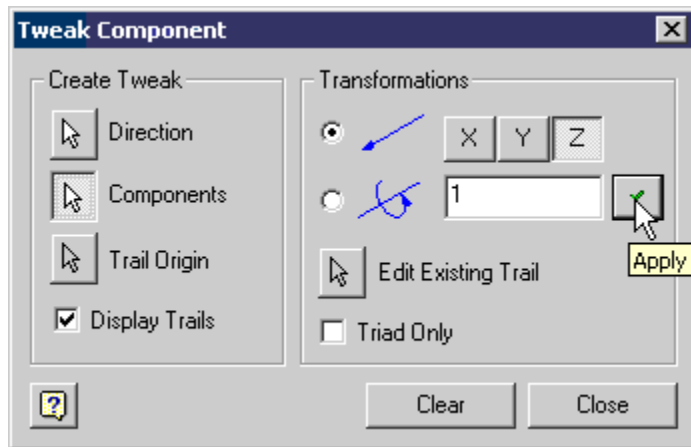

Figure 4: Precise tweak distance entry.
5. Enter 1 in the Transformations edit box, which specifies a precise tweak distance, and click the green check mark to apply the tweak (see Figure 4).